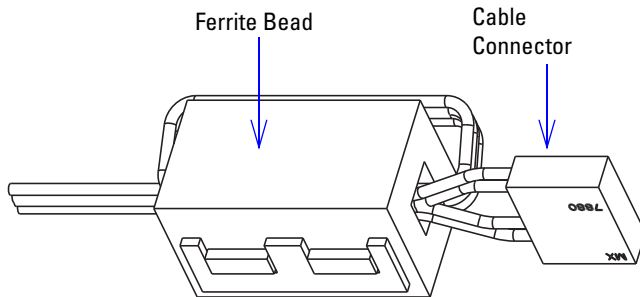

Figure 7: Ferrite bead on cable connector end
- Install the ferrite bead $\frac{3}{4}$ " from the cable connector. Wrap the cable one complete turn around the bead and snap it closed (Figure 7).